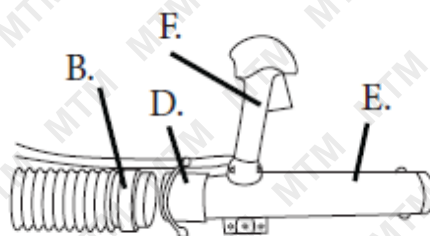

Fig.3
2. Put the hose clamp (G) on the flex tube and the operating tube together.
3. Turn the rotary ring mark (D) so it aligns with the throttle handle (F).
4. Insert the operating tube (E) into the tube (B) (Fig. 3) and then tighten securely with a hose clamp (G) (Fig. 4).